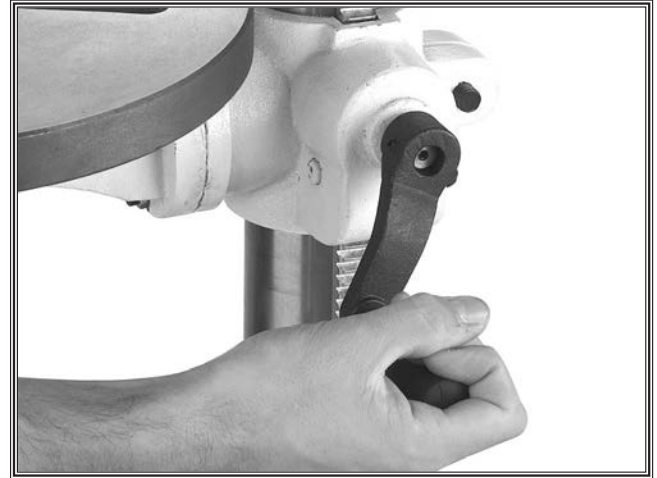

Figure 34. Raise or lower the table.
2. Turn the hand crank to raise or lower the table, as shown in **Figure 34**.